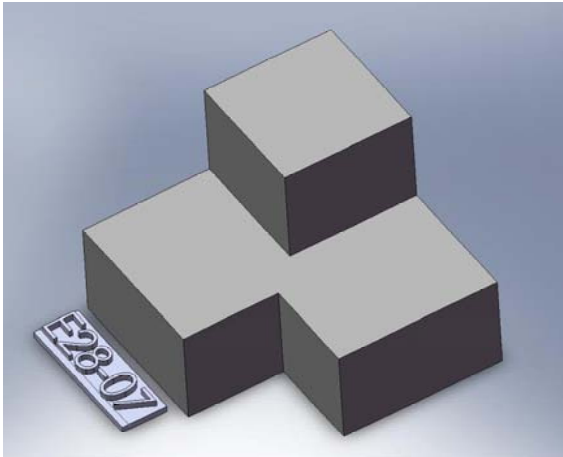

Figure 1 Solid model with ID tag sitting on the same plane as the part. Save the entire assembly as a single .stl file
7. Once your part is correctly oriented, place the ID tag next to the part, approximately 2 mm away. For assemblies, create a coincident mate between the bottom of your part and the bottom of the ID tag, so that they both sit on the same plane (See Figure 1).